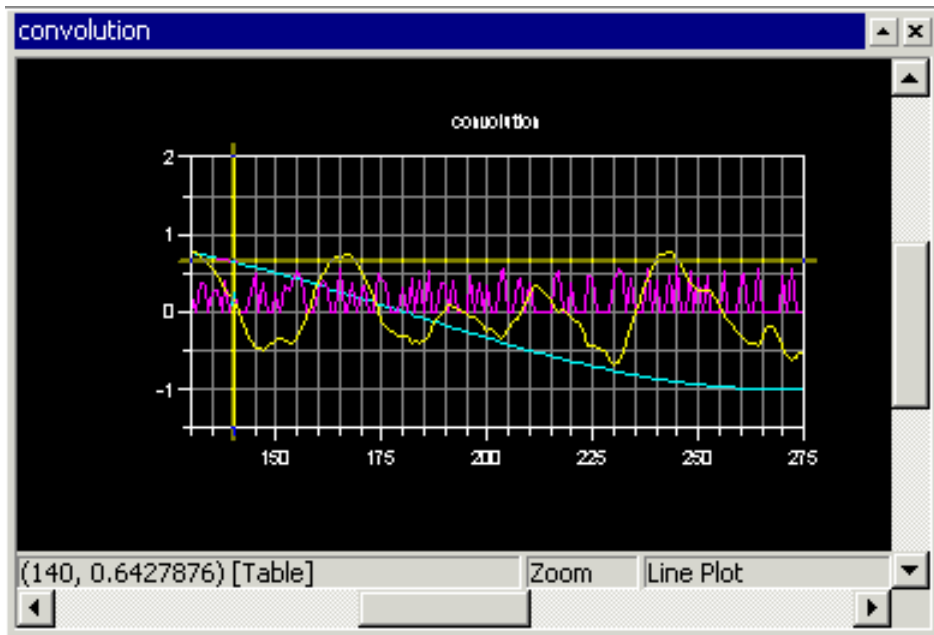

Figure 2-31. Plot Window: Using the Data Cursor Feature
5. Right-click inside the plot window and choose **Data Cursor** from the popup menu. Then move through the individual data points in the current data set by pressing and holding the Left (←) and Right (→) arrow keys on the keyboard. The value of the current data point appears in the lower-left corner of the plot window, as shown in Figure 2-31 on page 2-46.